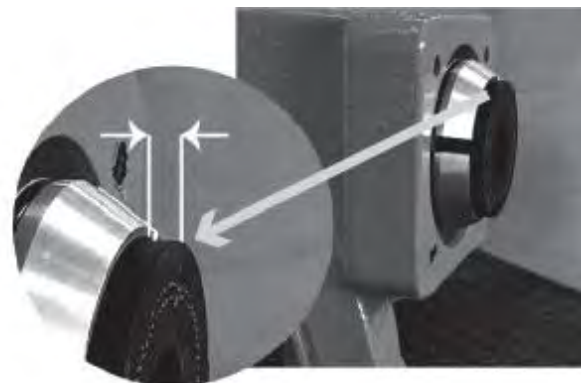

Fig. 1
- Lay the press rings. Between the end of the hose and the press ring, there must be a specific distance (see fig. 1 and fig. 2).
Boyser pump model	Approximate distance outside press ring (Fig. 1)